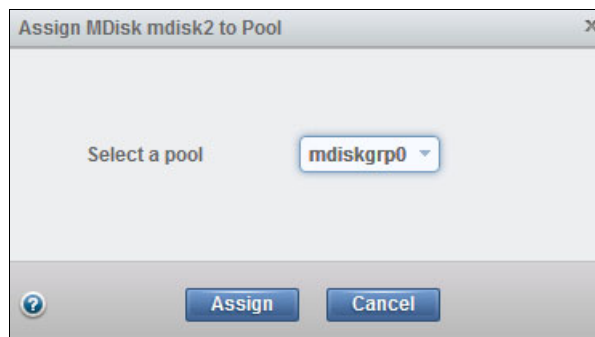

Figure 8-61 Assign `mdisk2` to the pool
6. Select the pool that you want to expand. This example has only a single MDisk pool. Select it and click **Assign** (Figure 8-61).